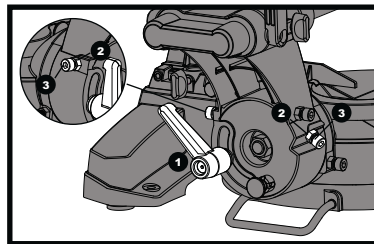

Fig 22
- 1) Loosen the bevel lock handle (1) and tilt the cutting head completely to the left.
- 3) If the blade is not at 45° to the mitre table, tilt the cutting arm to the right, loosen the locknut (2) on the bevel angle adjustment bolt (3) and use an hex key to adjust the stop bolt (3) depth in or out to increase or decrease the bevel angle.
- 6) Tighten bevel lock handle (1) and locknut (2) when alignment is achieved. (See fig. 22)